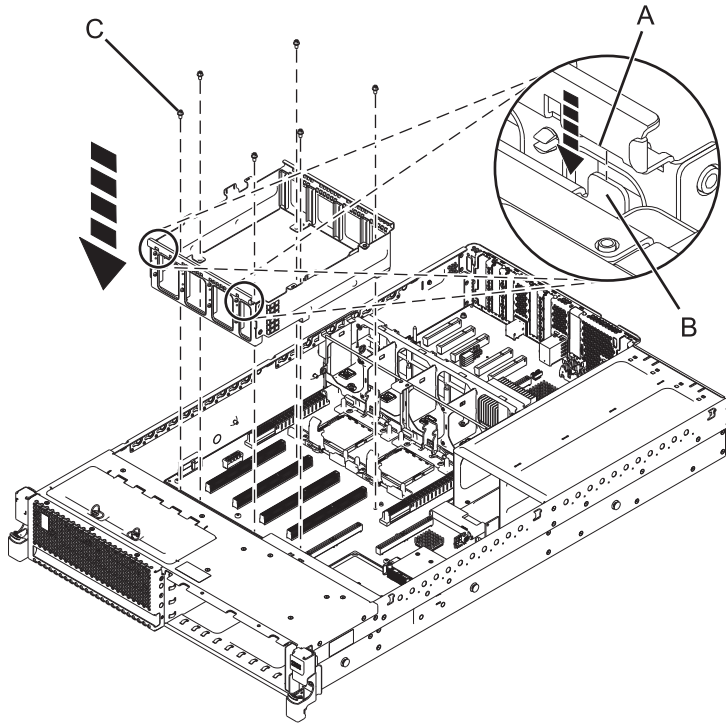

Figure 13. Replacing the DIMM cage
- a. Lower the DIMM cage into position ensuring that the DIMM cage alignment mark (A) and the alignment guide (B) are aligned. See Figure 13 on page 17.
- b. Insert and tighten the six screws (C) that secure the DIMM cage.